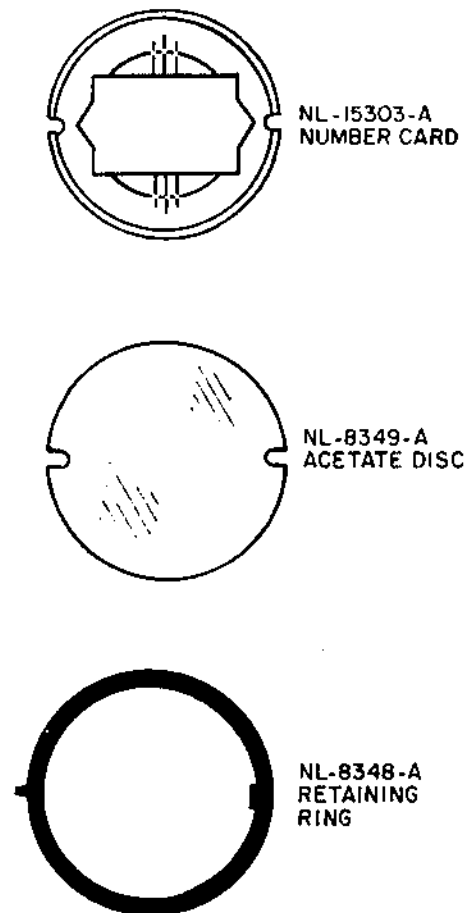

Figure 10. Escutcheon Assembly for Leich Dial Blanks and Generator Handles.
quired on manual telephone sets. Some monophone sets for manual service are assembled with apparatus blanks equipped with an escutcheon lock that permits use of the same escutcheon assembly as is used with GTE AE metal fingerwheels. Similarly, black WECO manual sets are arranged to mount the same card holder assembly as is used on WECO metal fingerwheels. Other monophone manual telephone sets and all Leich sets for manual service were assembled with Leich apparatus blanks arranged to mount the two-pronged escutcheon assembly shown in Figure 10. This assembly is also used on the generator crank of 900 series magneto telephone sets.
4.05 Leich telephone sets equipped with GTE AE Types 51 and 51A dials having black fingerwheels were provided with black number card 12404. With the advent of colored dials, the material and design of the card were changed to a neutral gray. Leich manual telephone sets were provided with a 12285 card, identical in design but smaller in size and having two semicircular indentations to clear the prongs of the escutcheon assembly (Figure 10). Monophone manual telephone sets with Leich apparatus blanks were equipped with a 15303 card, identical in size to 12285 but printed on white stock to match D-530182-A. As NL-15303-A, this card is still supplied on 900 series magneto telephone sets. It can also be used in WECO card holders.